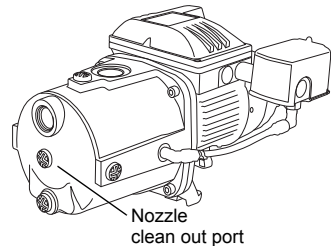

Fig. 10 Locating nozzle clean out port
1. Remove clean out port plug located below the inlet port; see fig. 10.